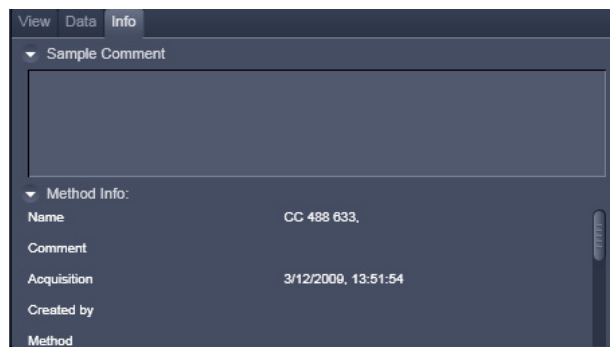

Fig. 9-99 Info options
- Click on the **Info** tab to open the **Info Options** menu (Fig. 9-99).